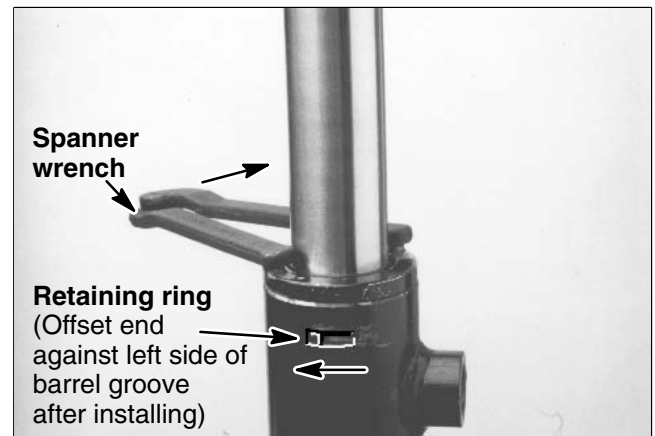

Figure 46
1. Coat new o-ring (item 4), backup ring (item 5), seal (item 7) and wiper (item 9) with hydraulic oil. Install sealing components to the head.
2. Mount rod securely in a vise by clamping vise on the pivot end of the shaft. Carefully slide head assembly onto the rod. Install retaining ring (item 1).
6. Secure head in tube by installing retaining ring (item 6). Align key slot in head with the access groove in the tube. Rotate head clockwise as far as the retaining ring will allow. The offset end of the retaining ring will be against the left side of the tube groove as shown in Figure 46.